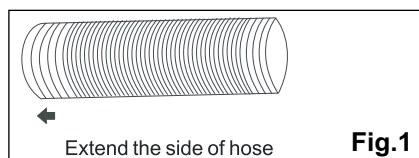
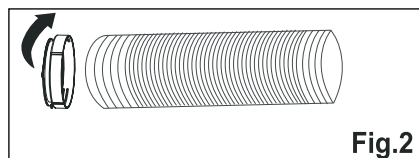

Fig.1
Fig.2
1. Extend either side of the hose(Fig.1) and screw the hose to connector A (Fig.2).